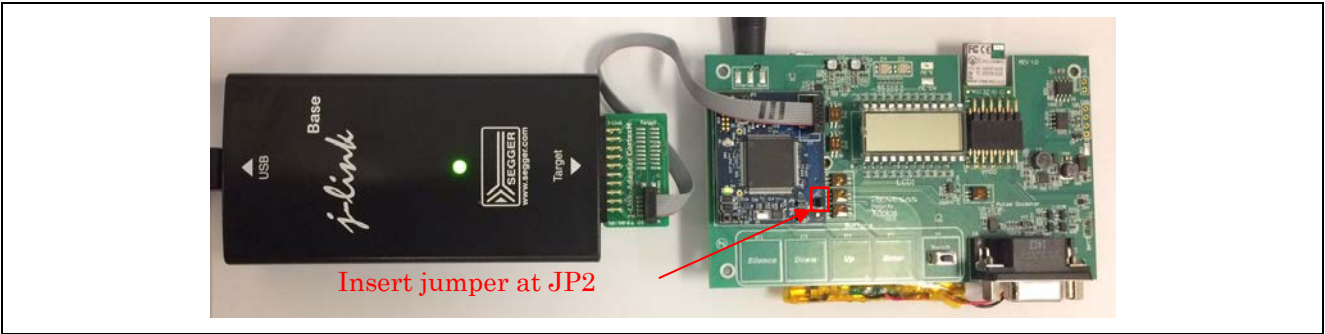

Figure 9 S3A7 board debugging setup
6. To enable JTAG debug function on the S3A7 board, do the following (see Figure 9):
- Figure 9 shows the debug setting with SEGGER J-Link debugger.
Note: If you wish to use the debugger, refer to Figure 9 for the SEGGER J-Link setup and follow the associated steps.